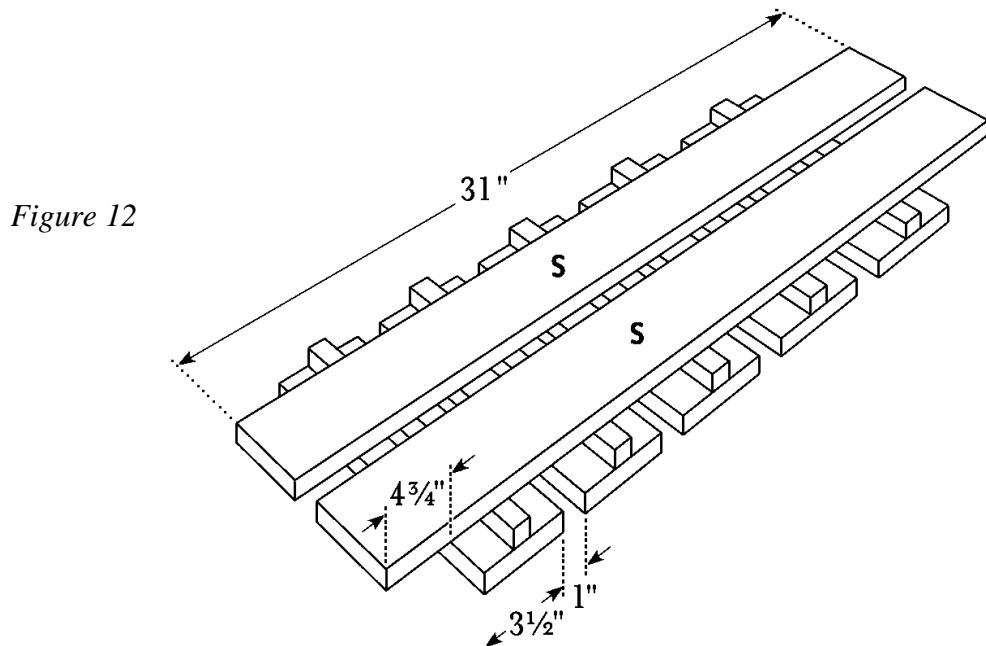

Figure 12
5. Repeat Step 4 four more times to attach the remaining Connectors (R) to the remaining Stem Supports (Q).
6. Place the five Connector/Support assemblies on a level surface, parallel to each other and 1 inch apart. Center the two Frame Supports (S) over the five connector/support assemblies, as shown in *Figure 12*. Note that the Frame Supports (S) will overhang the connector/support assemblies by 4-3/4 inches on each side.
7. Center the entire glass holder assembly inside the cabinet under the Top (B), flush with the back edge of the cabinet. Apply glue to the meeting surfaces, and screw through the two Frame Supports (S) into the Top (B). Use 1-1/4" drywall screws spaced about 5 inches apart.